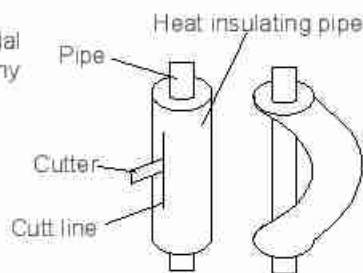

Fig.11
4. When bending the pipe, do not bend it as is. The pipe will be collapsed. In this case, cut the heat insulating pipe with a sharp cutter as shown in Fig. 11, and bend it after exposing the pipe. After bending the pipe as you want, be sure to put the heat insulating pipe back on the pipe, and secure it with tape.